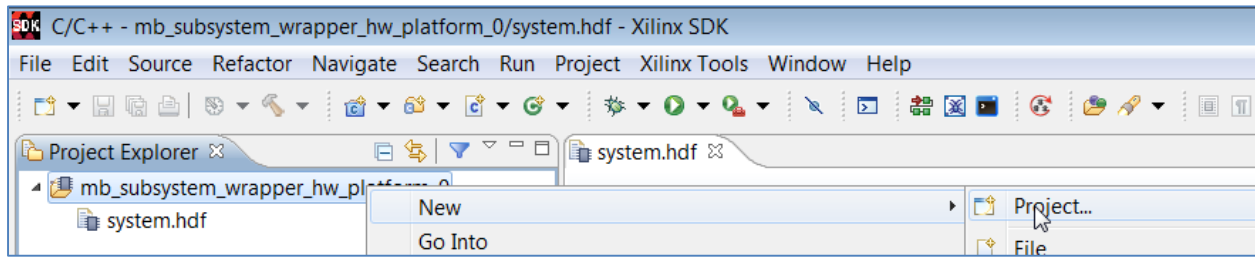

Figure 111: SDK New Project Selection
1. In SDK, right-click **mb_subsystem_wrapper_hw_platform_0** in the Project Explorer and select **New > Project**, as shown in Figure 111.